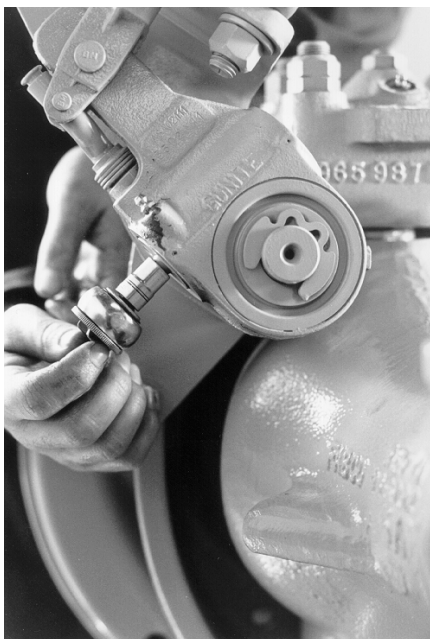

Figure 7
1. Using a $7/16$ socket, rotate the hex extension on the front of the slack adjuster clockwise until the shoes first contact the drum. See Figure 7. Rotate the hex extension $1/2$ turn counterclockwise to back off the shoes and provide initial running clearance. A ratcheting noise while backing off is normal.
1. Removal of the brake shoes will be facilitated by turning out the 7/16" adjustment screw on the slack adjuster to relieve tension on the S-cam rollers. Turn the screw counterclockwise until the rollers rest at the lowest point on the cam. See Figure 7.